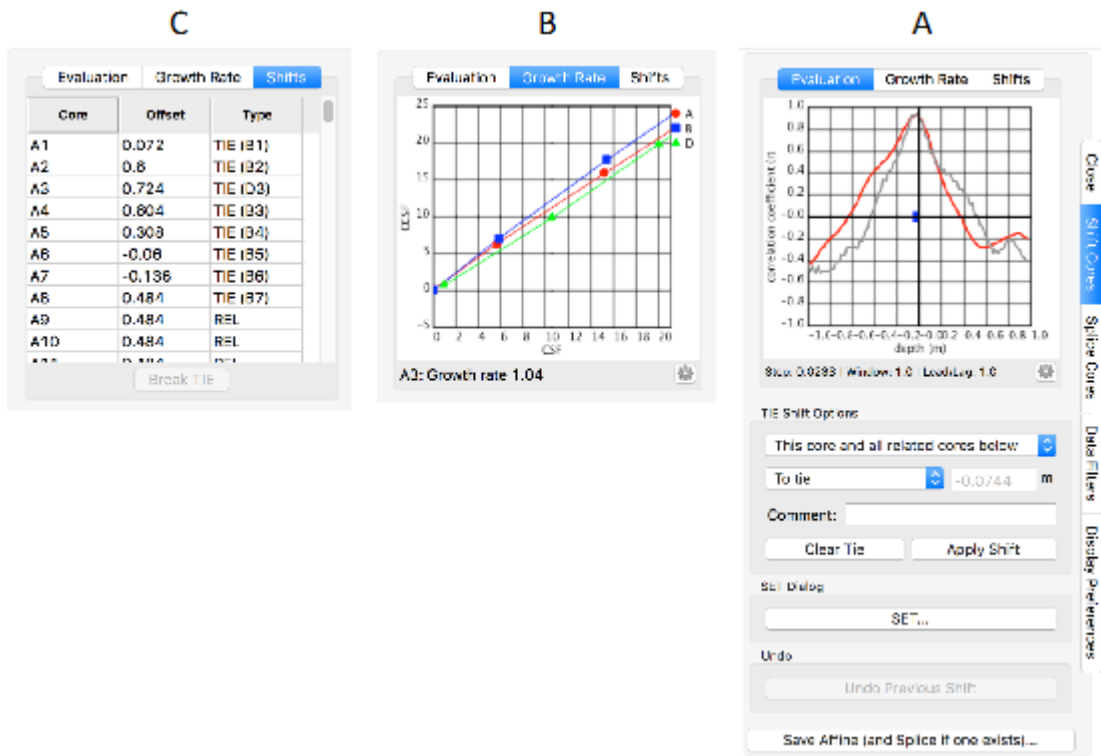

Figure 3-21. (A) Shift Cores tab with Evaluation plot, (B) Growth Rate plot and (C) Shifts plot.
To shift cores, select the Shift Cores tab of the Display view to see the control pane (Fig. 3-21), which provides both the controls for shifting cores and the feedback on the progress of shifting.
- The growth rate plot is updated (plot examples are shown in Figs. 3-21 and 3-27).